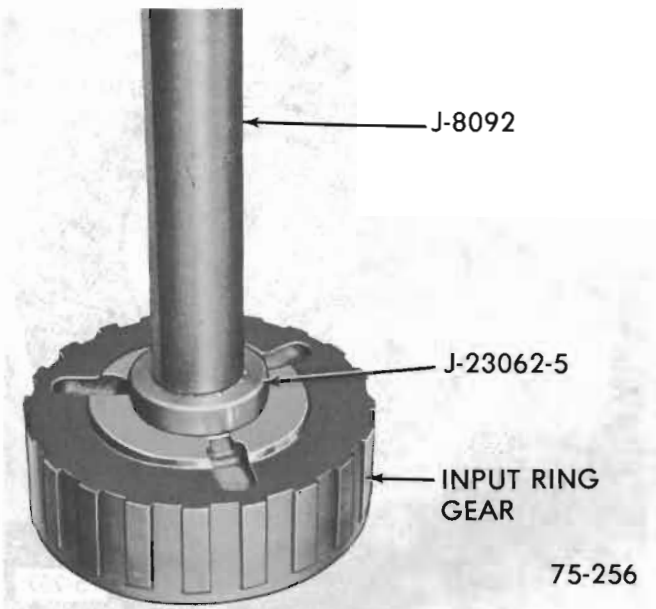

Figure 75-100
a. Thread Tool J-23062-5 on Drive Handle J-8092, and remove bushing from ring gear. See Figure 75-100.
b. Using Tool J-23062-5, press in new bushing .050" to .060" from inner surface of hub. See Figure 75-100.